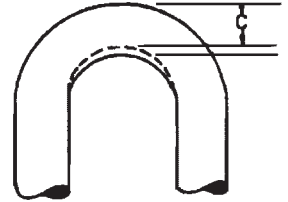

Figure 1
- D. Excessive wear - chains with links having wear exceeding that shown in Table of Wear should be removed from service. (see figure 1)